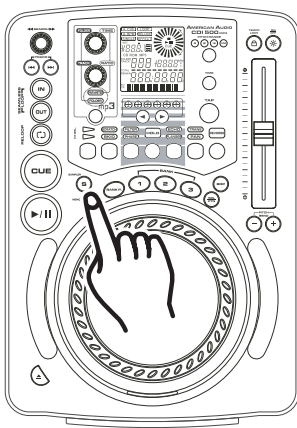

Figure 16
- 1) Create a Cue Point by one of the two means listed on page 18. Press the **MEMORY BUTTON (16)**, as in Figure 16. The yellow Memory Cue LED will glow indicating the store memory function has been activated. You may now press any one of the three **BANK BUTTONS (12)** to store your cue point into memory (Figure 17). After pressing one of the **BANK BUTTONS (12)**, the corresponding Bank Button LED will flash briefly. The LED on the the **BANK BUTTON (12)** will remain lit indicating either a sample or cue point is stored in memory. The yellow Memory LED will turn off.